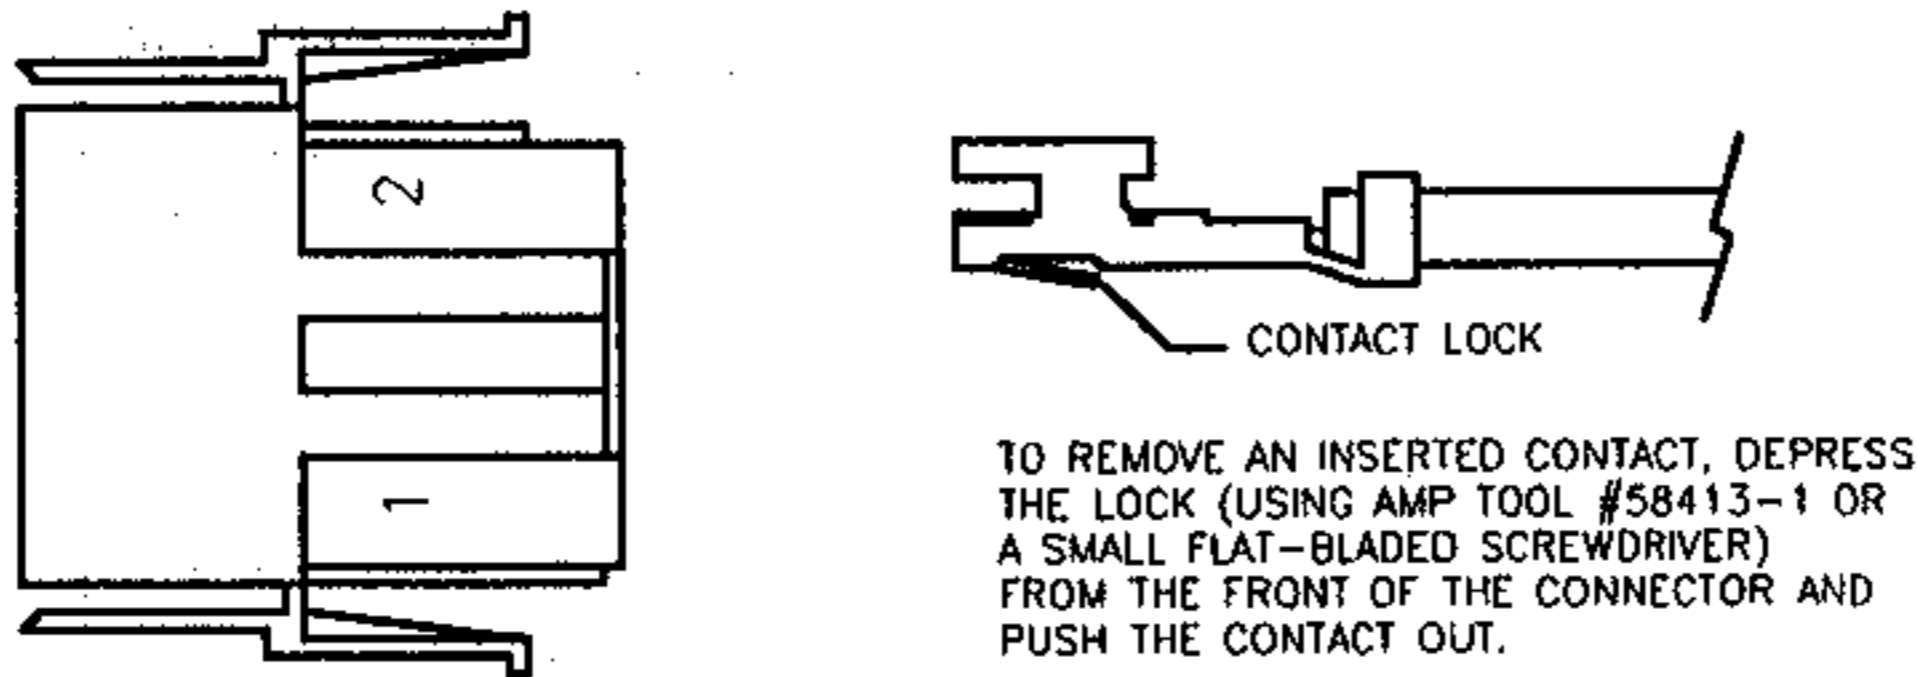

**Figure 2.3-2 Wire Preparation**
3. Crimp the stripped wire into the contact as indicated in **Figure 2.3-2**, then solder the connection.
4. Crimp the contact around the wire insulation as indicated in **Figure 2.3-2**.